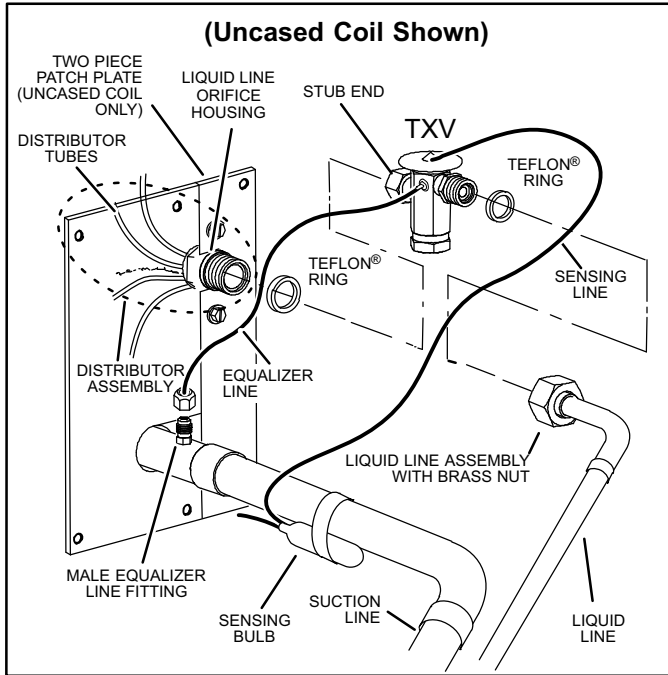

Figure 19. Typical TXV Removal
4. Remove the suction line sensing bulb as illustrated in figure 19.
7. Remove and discard TXV and the two Teflon® rings as illustrated in figure 19.